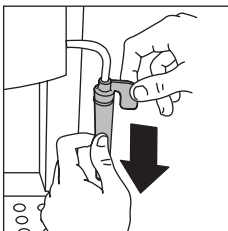

fig. 24
3. Remove the nozzle from the steam tube by pulling it downwards (fig. 24). **Note: Metal of steam pipe may be hot!!!**